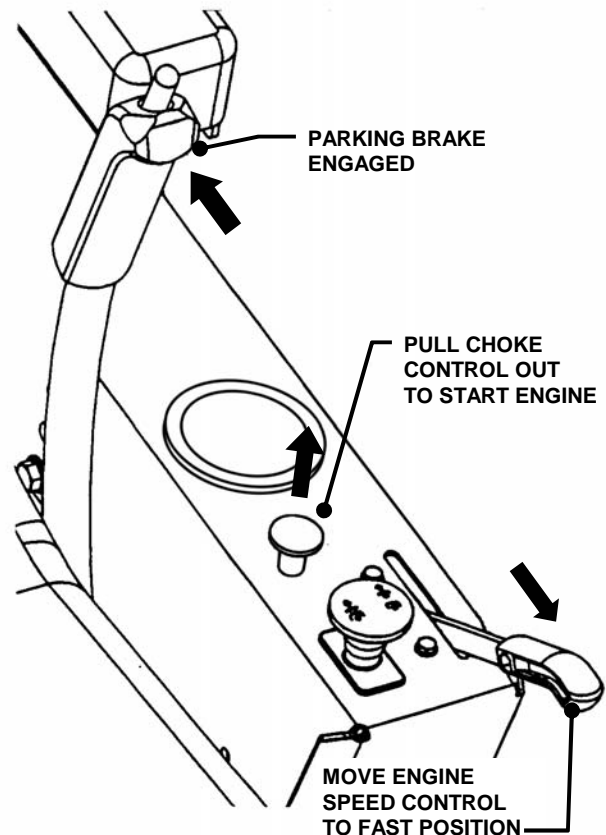

FIGURE 2.6
2. Make certain the blade switch is in the "Off" position. See Figure 2.6.
6. Move engine speed control to the "Fast" (Rabbit) position. See Figure 2.6.